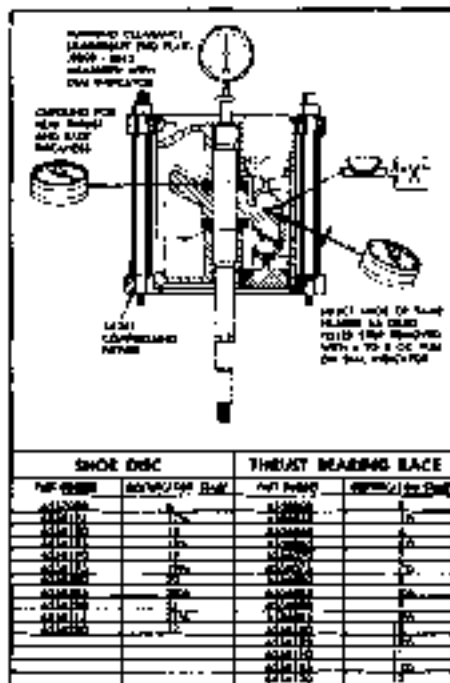

Fig. 1A-34 Measurements and Table of Available Service Shoes and Thrust Races
d. Select from stock a numbered thrust race that corresponds to dial indicator reading (Fig. 1A-37).